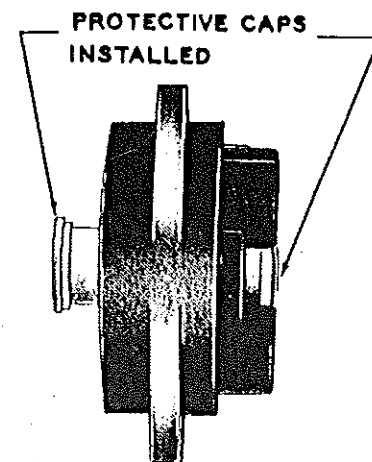

Figure 709. Protective Caps Installed
(1) Install a 10-70506-10S Protective cap over each end of bronze bushing in block (see Figure 709). Brushcoat all surfaces of the distributor block insulating material with 10-391400 Distributor Block Coating. Do not apply the coating to any exposed surface of the bronze bushing. Allow the block coating to dry for a minimum of 30 minutes before reassembling the block (79) to the housing (48) or gear assembly (72).
(2) Remove 10-70506-10S Protective Cap from electrode side of block and fill bushing with 10-391200 Distributor Block Lubricant.